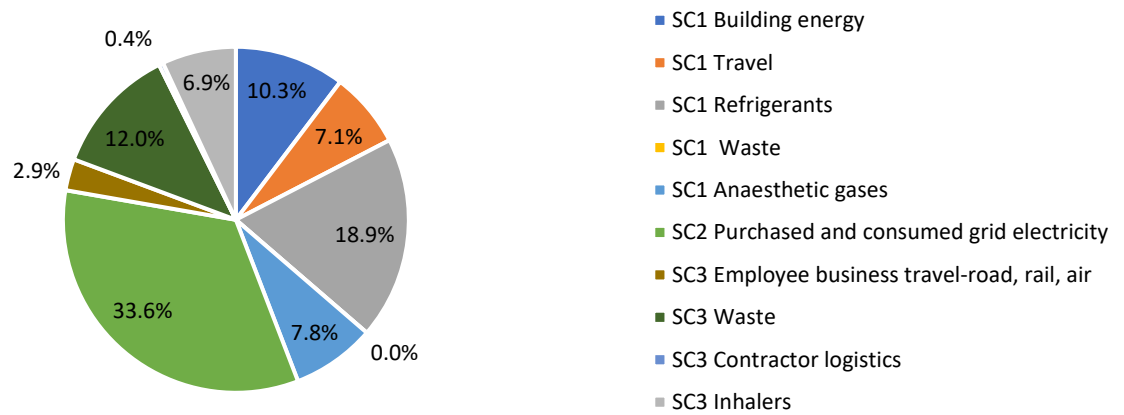

Figure 5 Emissions by Source for Scope 1,2 and 3. Excluding Supply Chain
- Emissions by Source for Scope 1,2 and 3 emissions, excluding supply chain (Fig 5)